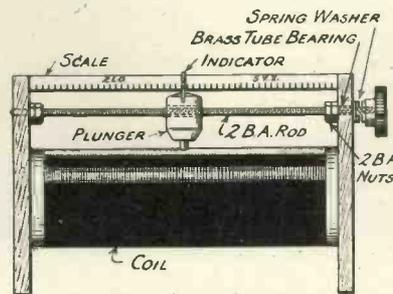

Fig. 6.—The vernier slider in position.
**M**ANY wireless constructors who are using the sliding type inductance coil have come to the conclusion that, for fine adjustment, a vernier slider is necessary. The patterns which are at present manufactured are rather expensive, and to construct one on similar lines is a complicated task for those not possessing a full kit of tools. The diagram given in Fig. 6 shows how to make a vernier adjustment, of a very simple but efficient type, employing the ordinary slider. It has also a graduated scale bar on which the various call signs can be marked opposite the corresponding division
Fig. 6 shows the vernier assembled. The scale may be made of brass strip or  $\frac{1}{8}$  in. ebonite marked along one edge in six-